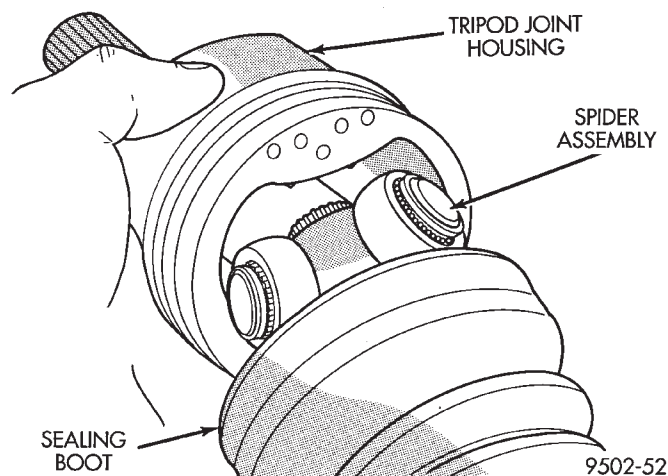

Fig. 34 Installing Tripod Housing on Spider Assembly
(4) Distribute 1/2 the amount of grease provided in the seal boot service package (DO NOT USE ANY OTHER TYPE OF GREASE) into tripod housing. Put the remaining amount into the sealing boot.
(5) Align tripod housing with spider assembly and then slide tripod housing over spider assembly and interconnecting shaft (Fig. 34).